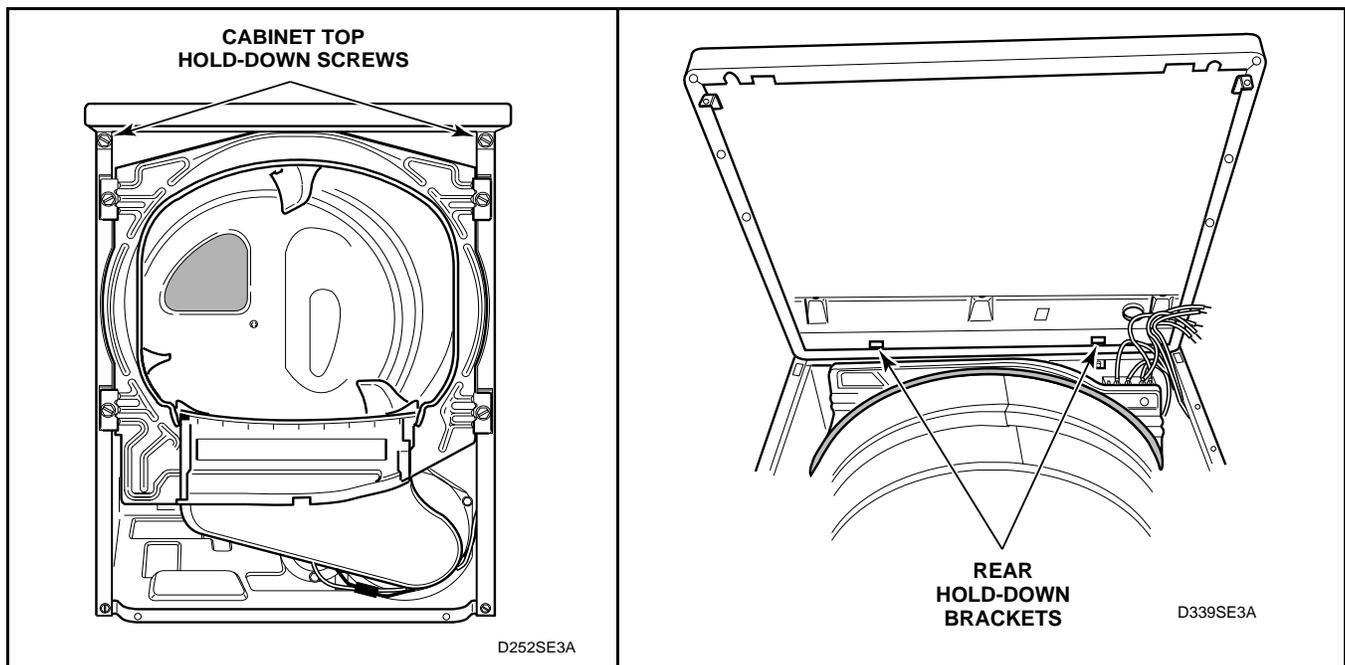

Figure 25
- e. Remove two cabinet top hold-down screws. See *Figure 25*.
- f. Lift cabinet top to a vertical position by hinging it on the rear hold-down brackets. See *Figure 25*.
- g. Carefully withdraw wire harness through hole in cabinet top and lift the top off the top brackets. See *Figure 25*.